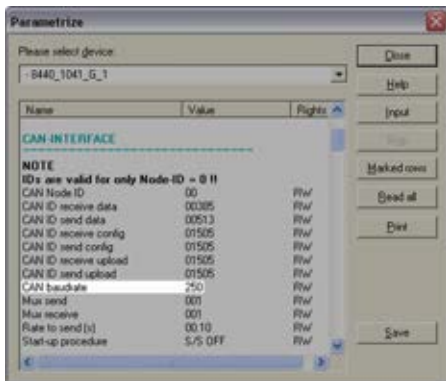

Fig. 170: Baud rate configuration (example LeoPC1)
2. For the first IKD 1 configure the baud rate as shown in (Fig. 170).